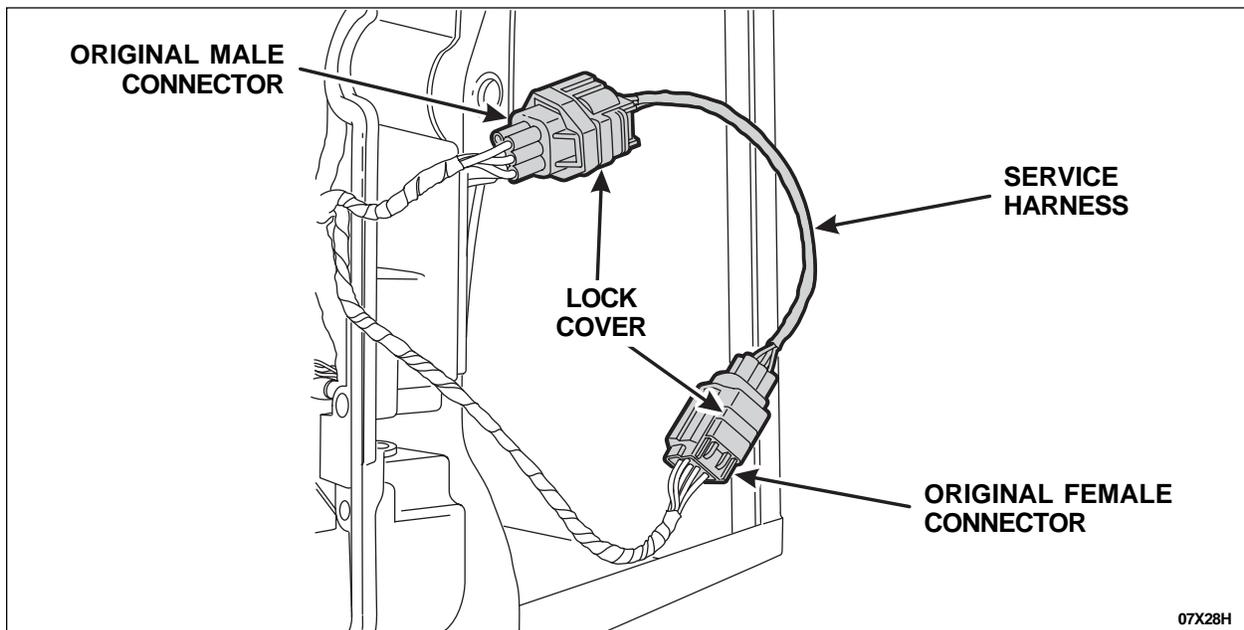

FIGURE 8
11. Slide out the lock cover (dark red part) and depress the release mechanism to unlock and disconnect the connector. Attach the service harness between the male and female parts of the original connectors. See Figure 8.